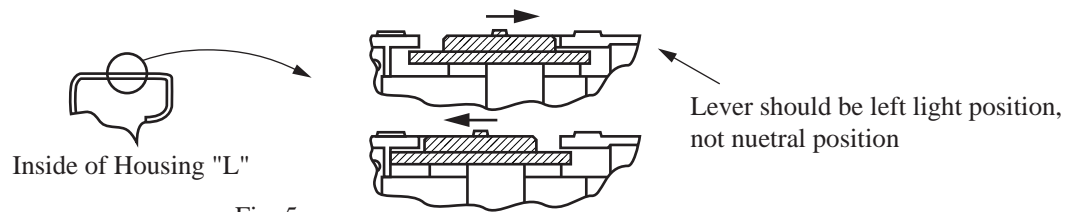

Fig. 5
- 1) To assemble the one body of gear assembly and motor etc. on the housing L, place the speed change lever on the position shown on the figure 5.